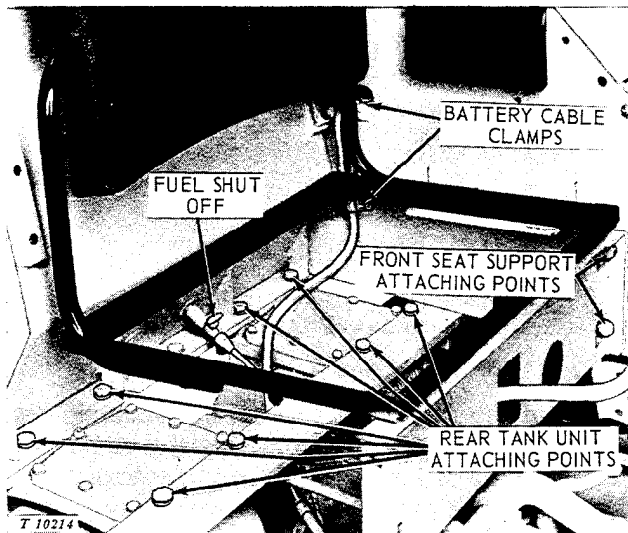
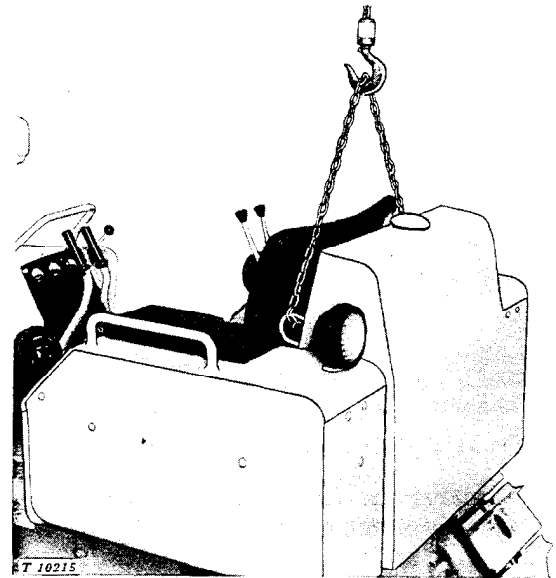

Fig. 20-20-1—Rear Tank Unit Attaching Points
Fig. 20-20-2—Removing Rear Tank Unit
2. Remove seat cushion. Close fuel shut-off and disconnect fuel line (Fig. 20-20-1). Also disconnect fuel return line (diesel).
4. Remove cap screws attaching front seat support to side tank (Fig. 20-20-1). Free support from shift lever. Remove cap screws securing fuel tank support and bottom seat support to steering clutch housing as shown.
5. Attach a chain hoist to lift bars and lift rear tank unit from tractor (Fig. 20-20-2).
With the aid of a chainhoist, install rear tank unit on tractor (Fig. 20-20-2). Secure rear tank unit to steering clutch housing as shown in Fig. 20-20-1. Connect battery cables to **POSITIVE** battery terminals. **NEGATIVE TERMINALS ARE GROUNDED. NEVER ATTEMPT TO POLARIZE AN ALTERNATOR-EQUIPPED UNIT.**